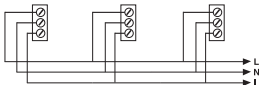

FIGURE 1
3. Using a 1 mm² (minimum) 3-core and earth cable (Type 6243Y or equivalent), connect the Control Switch to the most convenient Kidde or Firex alarm in the system as shown in Figures 1 & 2 below.